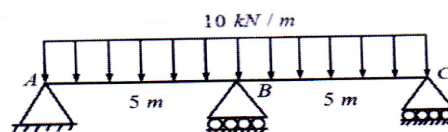

Figure 3
b) Determine the support reactions of the continuous beam ABC as shown in Figure 3 using flexibility matrix method. Take $EI = \text{constant}$. [6]